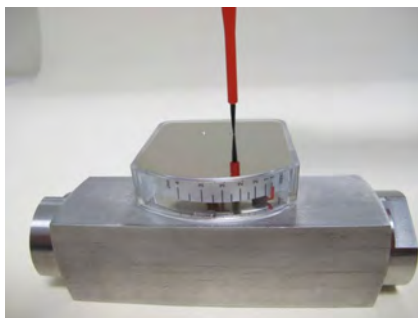

Fig. 66
25. ▶ Fasten the screws securing the display cover plate, observing the proper tightening torque (Fig. 66) (*Chapter 11.1 "Tightening torque" on page 82*).